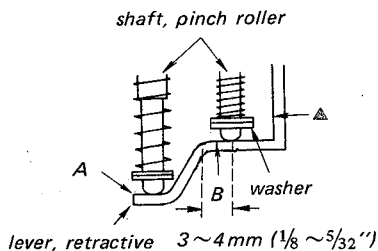

Fig. 8-8 Pinch roller stroke adjustment
- (1) Remove the head deck by removing the four screws marked with \blacktriangle on page 55.
- (2) Adjust the screw ① so that the pinch roller shaft comes in contact with the retractive lever at the position (A) shown in Fig. 8-8, in STOP mode.
- (4) Put the dummy capstan * into the capstan bearing and be sure that the pinch roller shaft moves by approx. 3 ~ 4 mm ($\frac{1}{8}$ ~ $\frac{5}{32}$ ") on the surface of the retractive lever when the function selector knob is changed from STOP to FWD.
- (5) Be sure that the washer for the pinch roller shaft does not come in contact with the part indicated with ▲ on the retractive lever shown in Fig. 8-8 when the function selector knob is changed slowly from FWD to FF.
- (6) After the adjustment, apply lock paint to the screw.